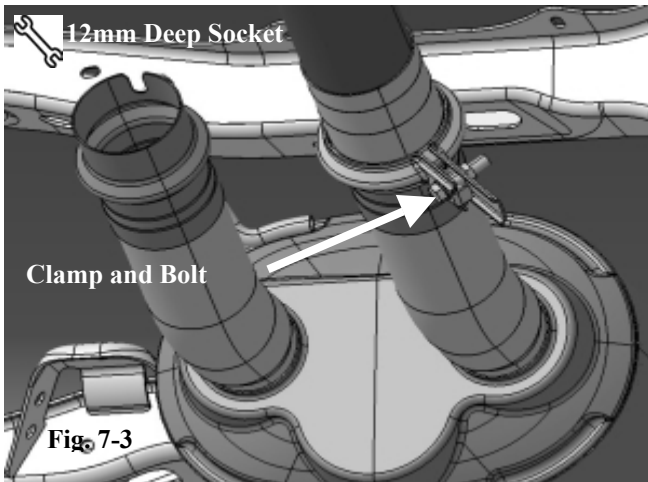

Fig. 7-3
- (d) Place clamp around flare and tighten bolt to 24±5 lb-ft (32±6 N-m) of torque. (Fig. 7-3) (12mm socket)
NOTE: Be sure to keep clamp handle orientation as shown in Fig. 7-3.